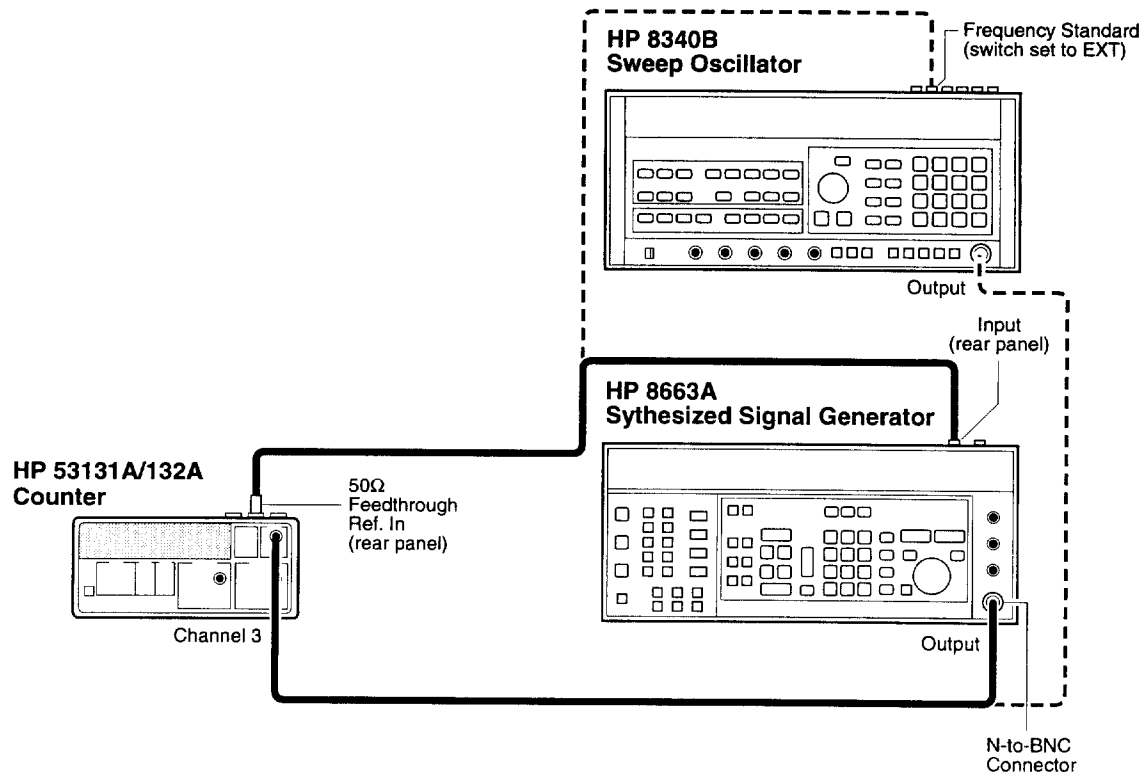

Figure 1-9. Option 030/050 Channel 3 Frequency Test Setup
- 1 Set the HP 8663B Synthesized Signal Generator to output a 500 MHz, -60 dBm sine wave, and connect the signal to Channel 3 of the Counter as shown in Figure 1-9.**
- 1 Disconnect the HP 8663A Synthesized Signal Generator from the Counter (see Figure 1-9), and connect the HP 8340B Sweep Oscillator to Channel 3 of the Counter.**